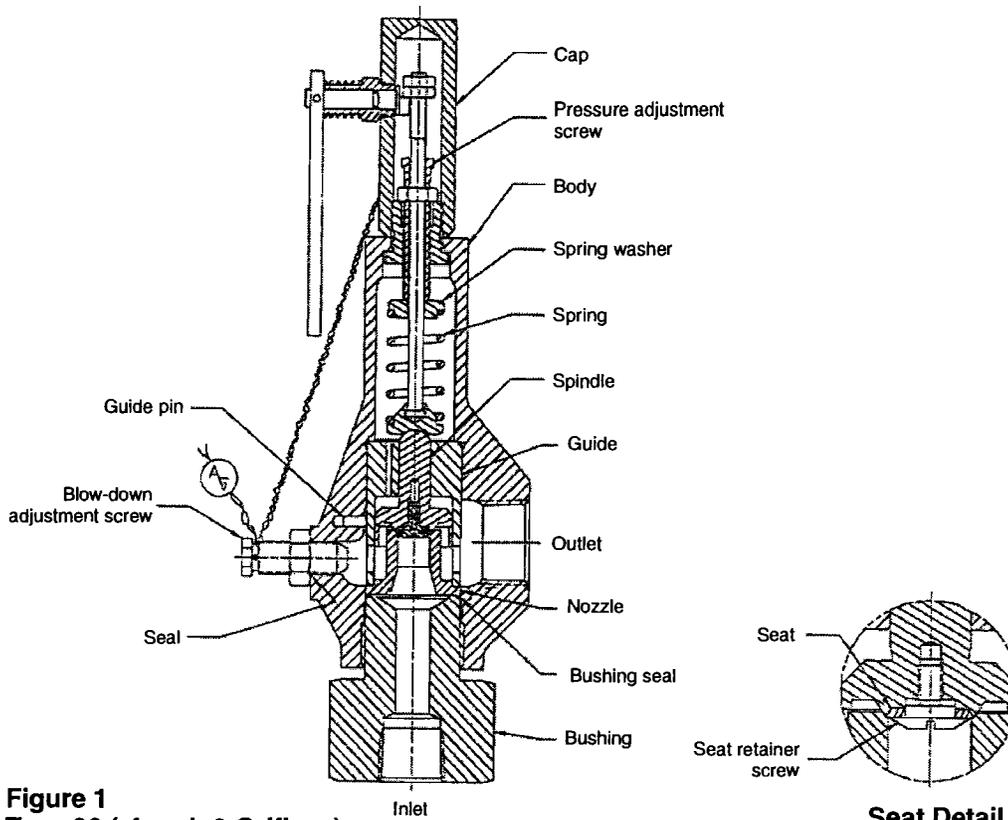

Figure 1
2.0 Valve Repair (-4, -8 Orifice) refer to Figure 1